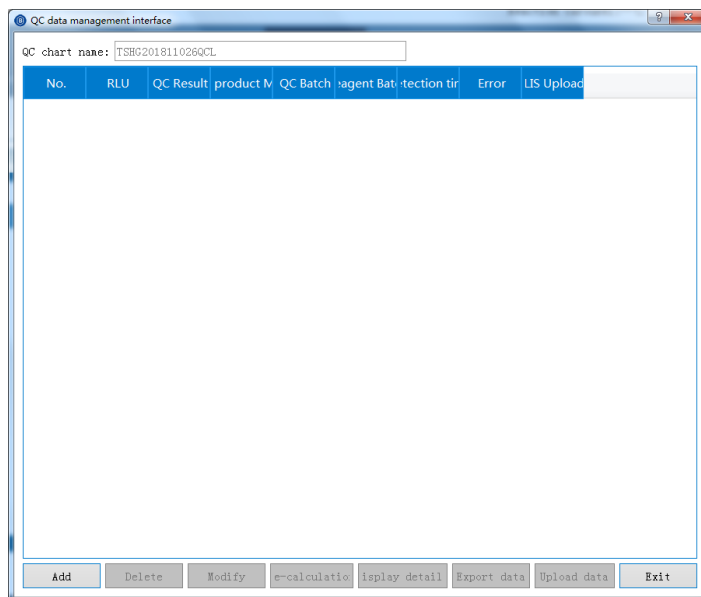

Figure 8.6.12 QC data management
- Click **QC chart data management** and the interface will pop up, as shown in Fig 8.6.12:
The added data will be saved in the **QC data management** interface as shown in Figure 8.6.12.
Figure 8.6.12 and click **Delete**. A confirmation of deletion will pop up.
- Select a set of QC data in the **QC data management** interface in Figure 8.6.12 and click **Modify**
- Select a set of QC data in the **QC data management** interface in Figure 8.6.12 and click **Recalculation**.